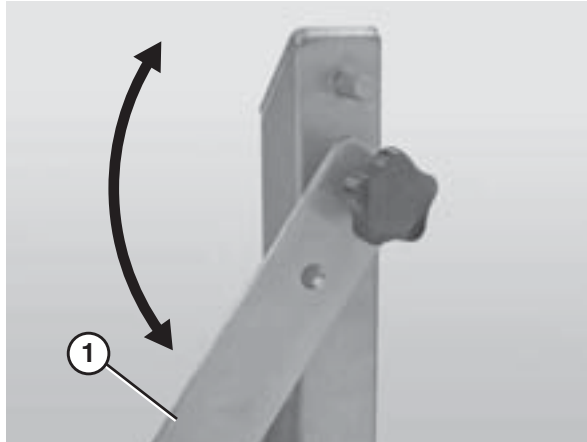

Figure 32
6. Lower the quick release arm (Figure 32, item 1) on one of the stands. *Note: if the conveyor is not equipped with Quick Release (QR Type) stands, it will be necessary to remove the entire stand.* For detailed instructions, refer to the “Sanitary Support Stands Installation, Maintenance and Parts Manual.”